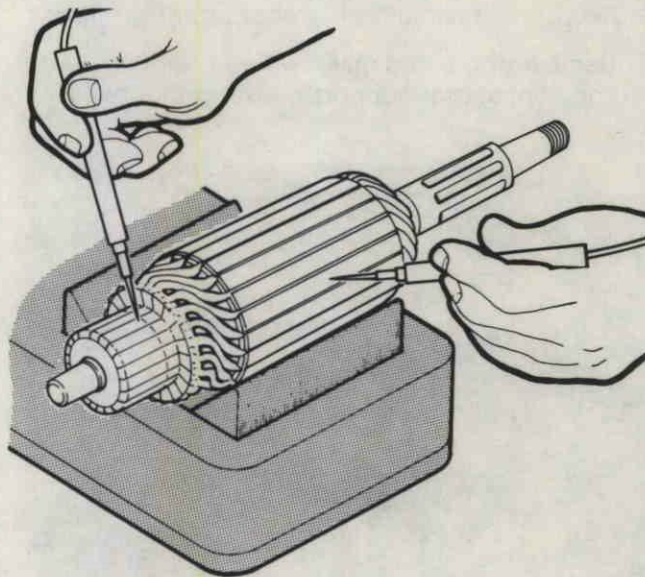

Figure 52. Testing Armature for Ground.
- A. Place armature in growler jaws and turn power switch to TEST position. Figure 52.